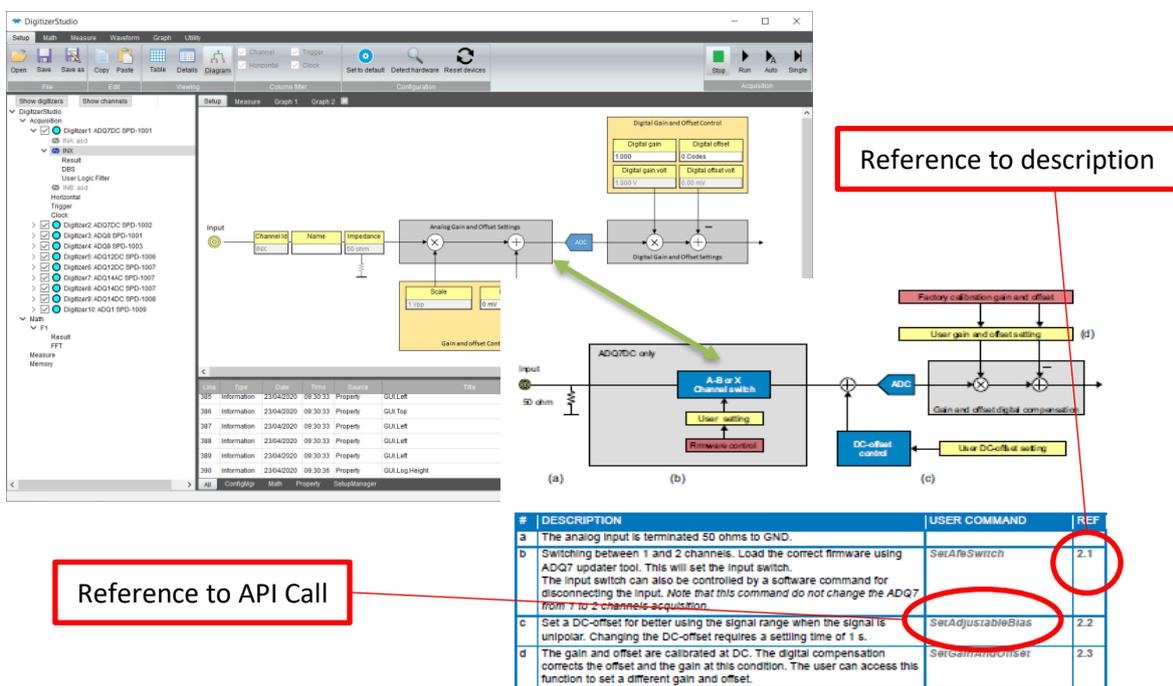

Figure 1 Link between Digitizer Studio and ADQ manual
In Digitizer Studio is a setup view “Diagram”. This diagram has a corresponding description in the xx-xxxx ADQyy Manual, Figure 1. In the manual is a description of each block which can be seen in Digitizer studio. There is also a reference to the ADQAPI command for controlling the function.
1. Via the ADQ Manual as in Figure 1.